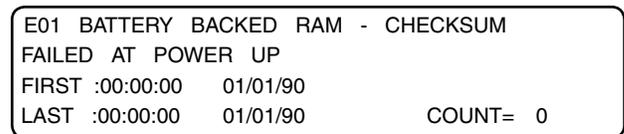

Figure 35-2
1. Press the Diagnostics button , , and  to display the E01 Error Log screen. See figure 35-2.